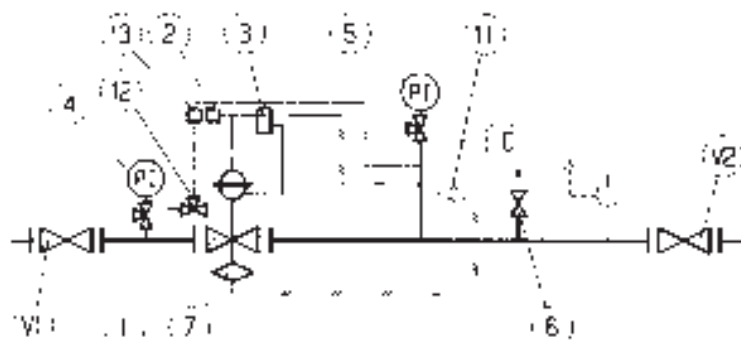

Fig. 20
5.3 MESSA IN SERVIZIO REGOLATORE CON VALVOLA DI BLOCCO SB/82 INCORPORATA (FIG. 20)